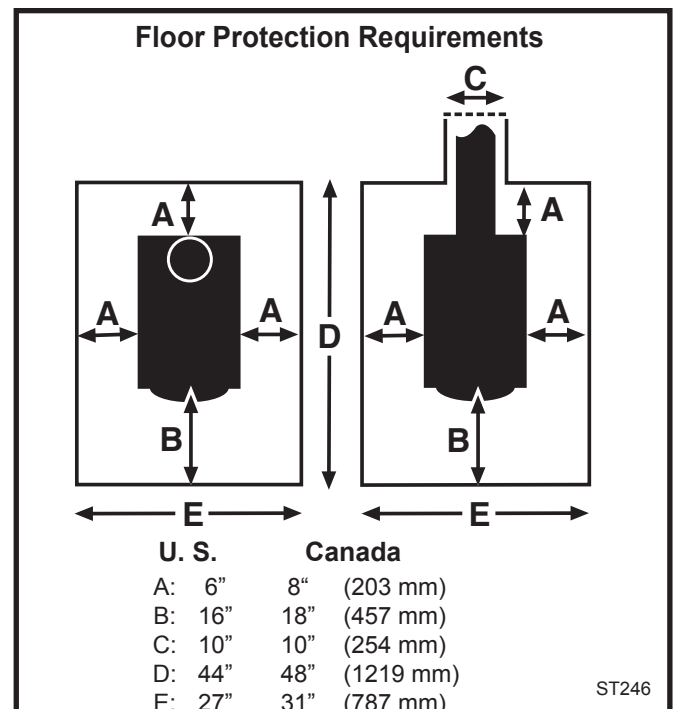

Fig. 14 These dimensions are minimum requirements only. Use greater dimensions whenever possible.
U.S. Installations: The floor protector is required under the stove and must extend at least 16" from the front of the stove (B, Fig. 14), and at least 6" from the sides and rear (A, Fig. 14). It must also extend under the chimney connector and 2" to either side. (C, Fig. 14)
In Canada: A noncombustible floor protector is required under the heater. The floor protector must extend 18" (457 mm) to the front (B, Fig. 14) and 8" (203 mm) from the sides and rear. (A, Fig. 14)